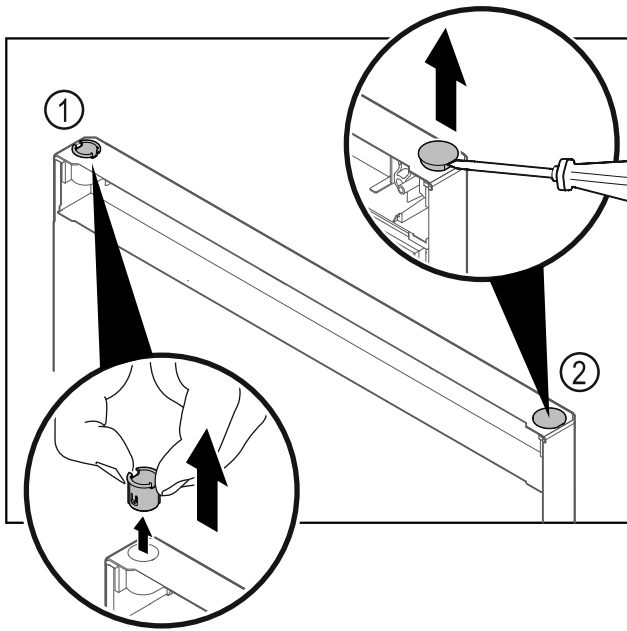

Fig. 31
- ▶ Pull out the hinge bushing Fig. 31 (1) with your fingers.
- ▶ Carefully lift the cover plug Fig. 31 (2) with a slotted screwdriver and pull it out.